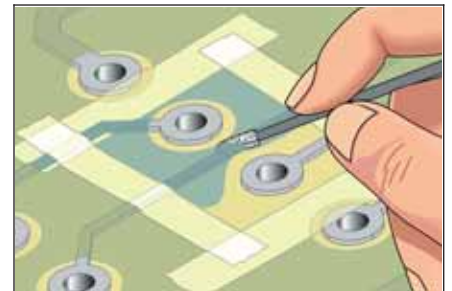

Figure 2 Apply replacement coating with a foam swab to create a texture.
4. Apply the replacement coating to the board surface as required. A brush or foam swab may be used to apply and spread the epoxy or replacement coating. (See Figure 2.)